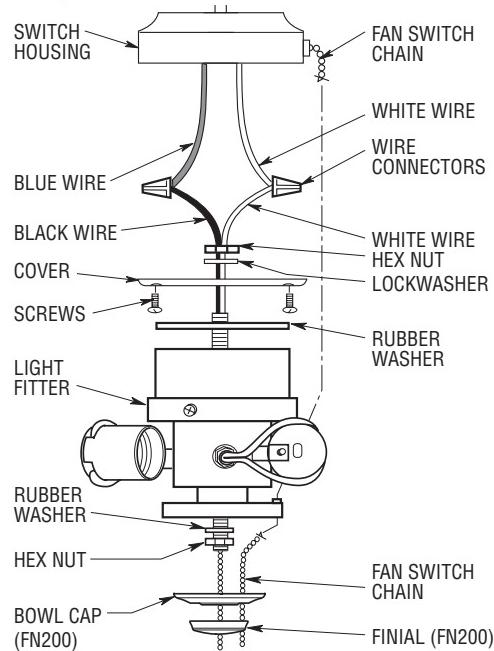

Figure 5
2. Remove the cover from switch housing below ceiling fan (Figure 5).
5. Connect the white wire from the ceiling fan to the white wire of the light fitter. Connect the blue wire from the ceiling fan to the black wire of the light fitter. Use listed wire connectors (previously removed in Step 3) to make connections. (Figures 5 and 6.)